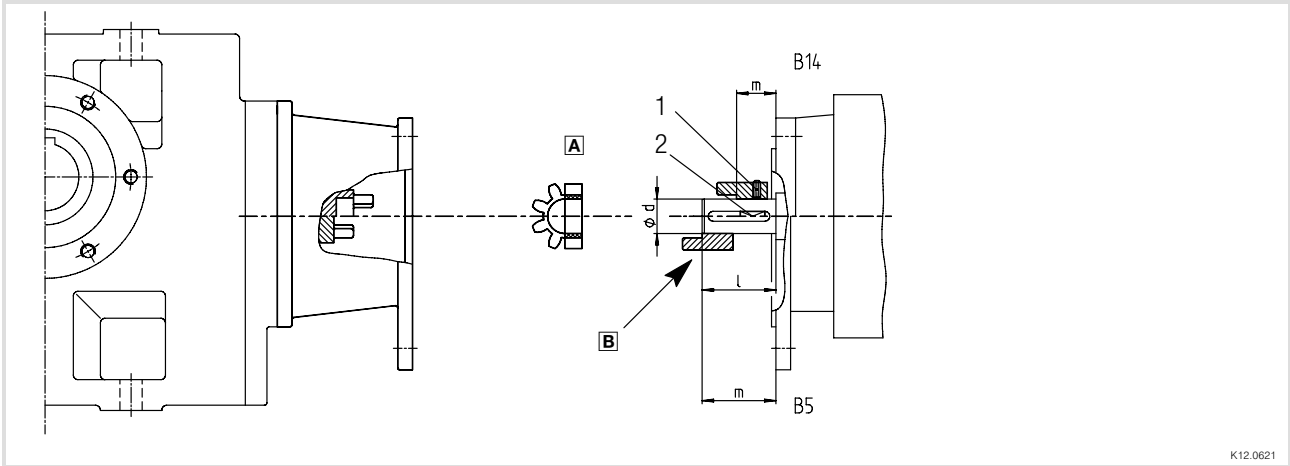

Fig. 3 Input side design N
1. Fit motor key (2).
2. Push the coupling hub over the motor shaft, mounting dimension m (see Fig. 3 and Tab. 3) must be observed.
3. Secure coupling hub against axial movement using the fixing screw or clamping screw (1).
2. Push the coupling hub over the motor shaft, mounting dimension “m” (see Fig. 3 and Tab. 3) must be observed.